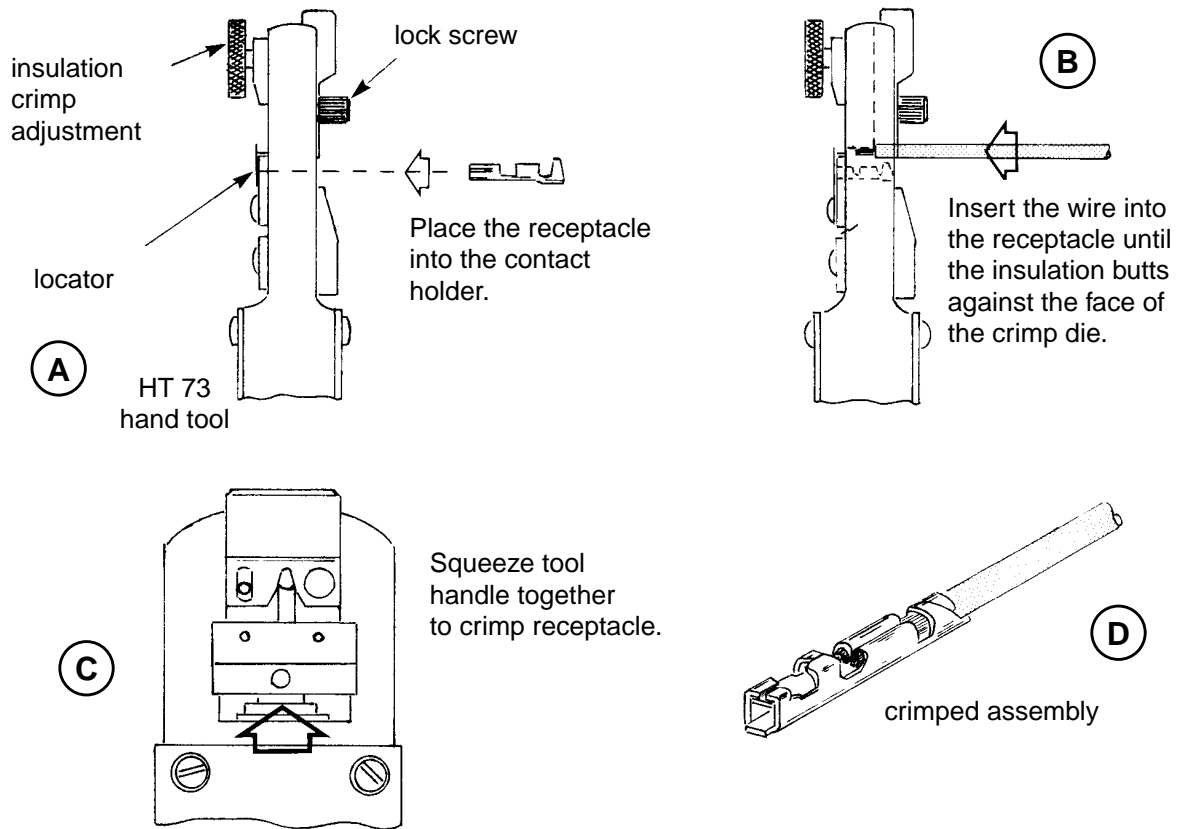

Figure 4 - Crimping PV Receptacles to 18 - 20 AWG Wire
5.2.2 Crimp PV receptacles to 18 - 20 AWG wire using the BERG HT 73 hand tool as follows (see Figure 4):